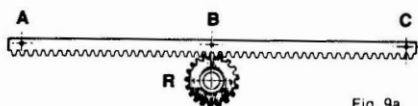
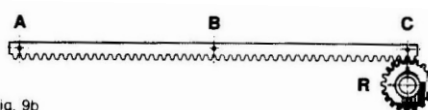

Fig. 9a
Fig. 9b
- Lean rack element to the sprocket of the gear motor R positioning it as shown in fig.9a. Then weld then central to the gate's structure, adequately strenghtened. Slide manually the gate until the pag.x is in correspondence of the gear (Fig. 9b) and then weld the pag.x. Perform the same operation with the pag.x, after having moved it in correspondence of the wheel R.